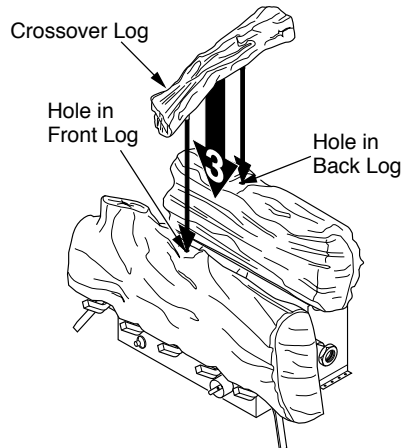

Figure 34 - Installing Crossover Log
3. Place the crossover log on top of the back log and front log making sure pins are inserted into holes on top of logs 1 and 2 (see Figure 34). This log must be placed as shown in Figure 34 or the pins will not seat into holes.